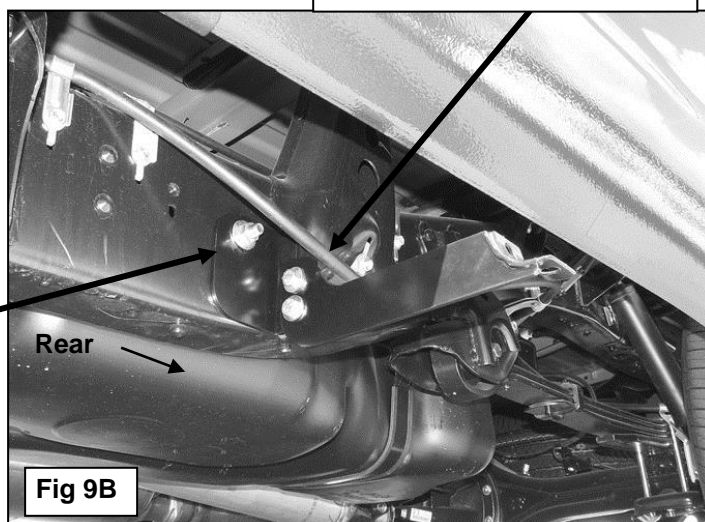

Fig 9B
7. Select the driver side rear Tube Bracket, **(Figure 9A)**. Bolt the Tube Bracket to the front of the Mounting Bracket with (2) 10mm Hex Bolts, (4) 10mm Flat Washers, (2) 10mm Nylon Lock Nuts, **(Figure 9B)**. Do not fully tighten hardware at this time.